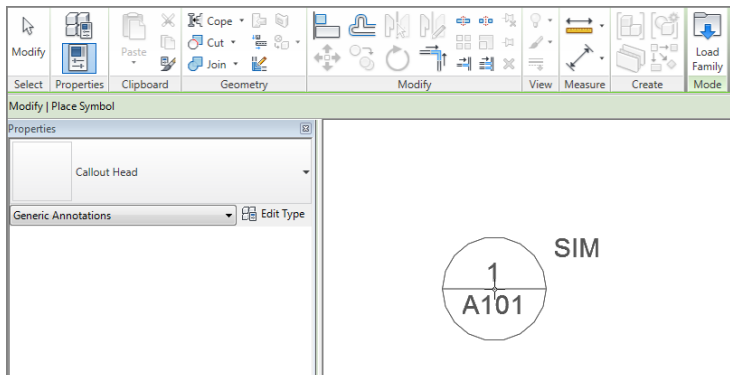

FIGURE 11.46: Placing the callout head
7. Place the callout head into the view (see Figure 11.46).